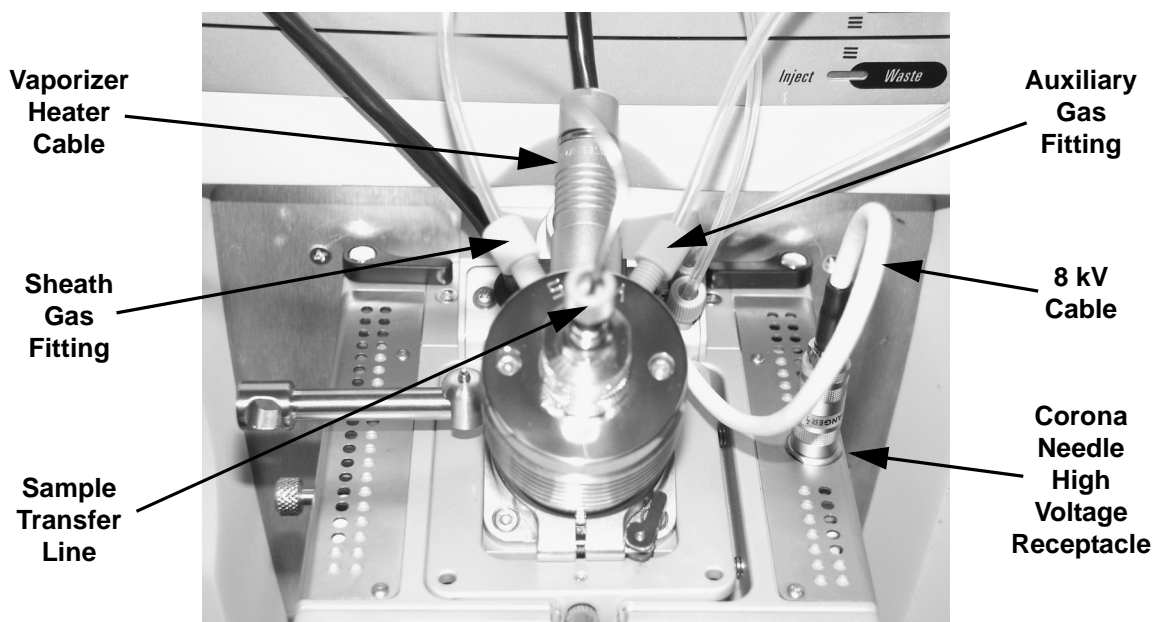

Figure 2-1. Ion Max ion source housing with APCI probe installed
1. Unplug the vaporizer heater cable from the vaporizer heater cable socket on the APCI probe. See Figure 2-1.
2. Disconnect the sample transfer line from the APCI probe. (See Figure 2-1.)
3. Remove the auxiliary gas line (green colored fitting) from the APCI probe. (Figure 2-1)